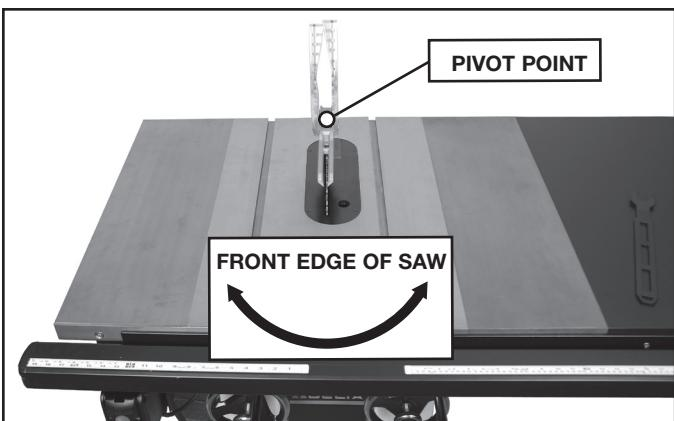

FIG. 49
4. Adjust the front edge of the saw (as shown in Fig. 49). The pivot point on the rear edge of the saw is shown in Fig. 49.